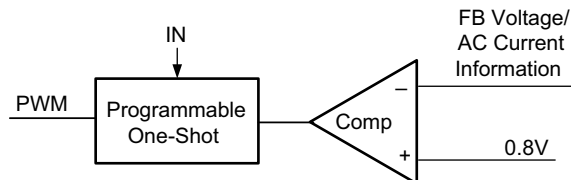

Figure 4. Simplified Control Schematic
The control algorithm of AOZ2254TQI-11 is constant-on-time PWM control with input feed-forward. The simplified control schematic is shown in Figure 4. The high-side switch on-time is determined solely by a one-shot whose pulse width is inversely proportional to input voltage (IN). The one-shot is triggered when the internal 0.8V is higher than the combined information of FB voltage and the AC current information of inductor, which is processed and obtained through the sensed low-side MOSFET current once it turns-on. The added AC current information can help the stability of constant-on time control even with pure ceramic output capacitors, which have very low ESR. The AC current information has no DC offset, which does not cause offset with output load change, which is fundamentally different from other  $V^2$  constant-on time control schemes.